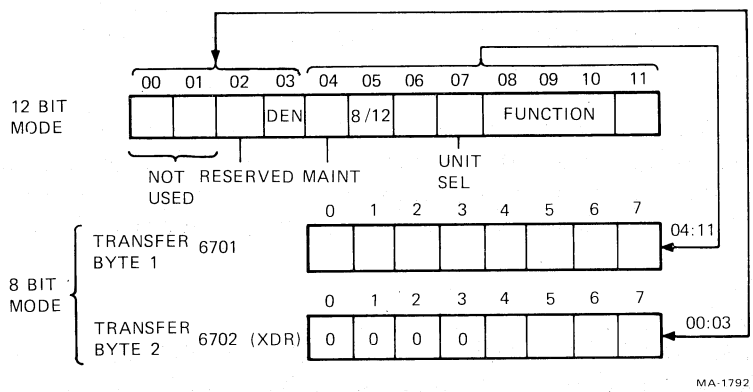

Figure 4-2 Command Word Format (RX28)
4.1.2.2 RX28 Load Command – (First byte 67x1, second byte – 67x2) – This command transfers the contents of the AC to the interface register and clears the AC. The RX02 begins to execute the function specified in AC 8, 9, and 10 on the drive specified by AC 7. A new function cannot be initiated unless the RX02 has completed the previous function. The command word is defined as shown in Figure 4-2 and is described in greater detail in Paragraph 4.1.3.1.
When operating in the 8-bit mode, the Load command is stored in two 8-bit transfers. The first 8 bits of the command word (shown as bits 4–11 in Figure 4-2) are stored; then TR is asserted and an XDR is performed to transfer the remaining bits of data (bit 3, DEN, and bit 2, as shown in Figure 4-2) right-justified. The extra bits in the second 8-bit transfer are filled with zeros. Upon completing the transfer of the second 8-bit byte, Done is asserted to end the function.